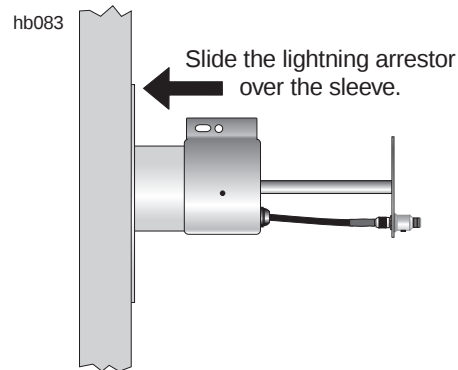

Figure 5-8 Attaching the arrestor assembly to the sleeve
1. Slide the lightning arrestor over the sleeve, as shown in figure 5-8.